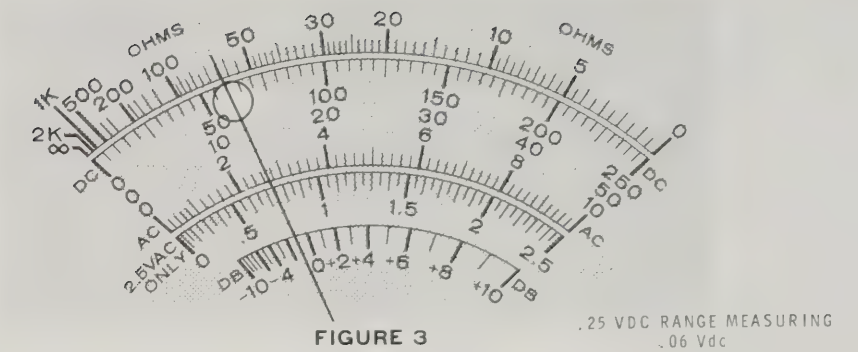

FIGURE 3
**.25 VDC RANGE** — Read the 250 scale and move the decimal three places to the left. For example, a reading of 60 would indicate a measurement of .06 volts as shown in Figure 3 (fold-out from Page 27).